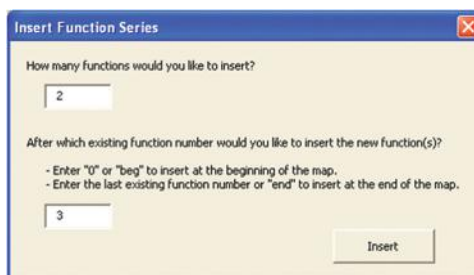

Figure 6.14 Insert function pop-up window.
- **Insert functions:** Count the number of functions (swim lanes) represented on the manually created map. Click the **Insert** option on the custom toolbar and select **Insert Function(s)** from the drop-down menu. In the Insert Function(s) pop-up window (Figure 6.14), enter the number of functions you wish to add (remember that the map comes preloaded with two functions already), and indicate where, within the existing function numbers, you would like your new function(s) to be inserted. *Note:* If you insert a large number of functions, you may experience a short delay as the macro executes the command.